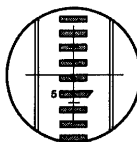

Fig.4.7
- 3) Use the horizontal fine motion screw ⑦ to center the target in the field of view. Turn the 2-speed focussing knob ⑨ to focus on the target. (Fig.4.7)